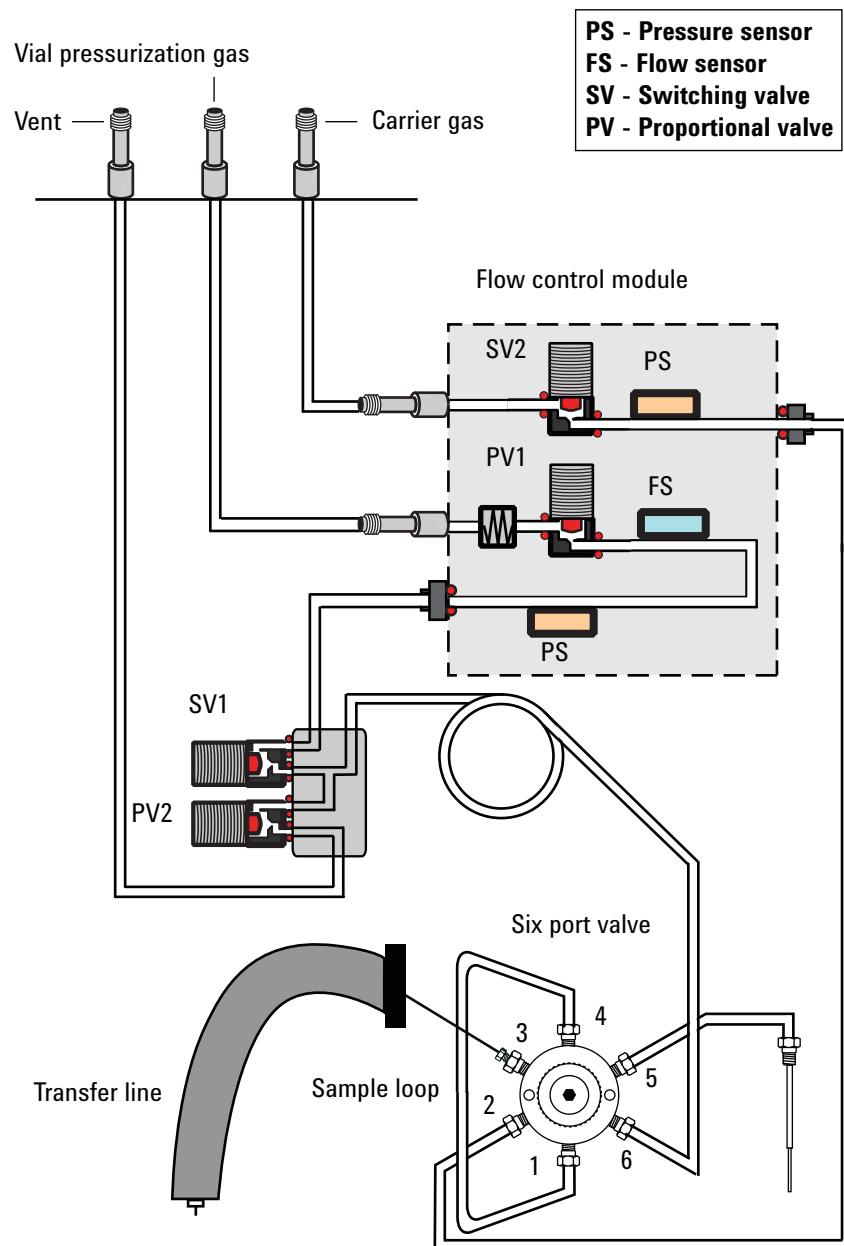
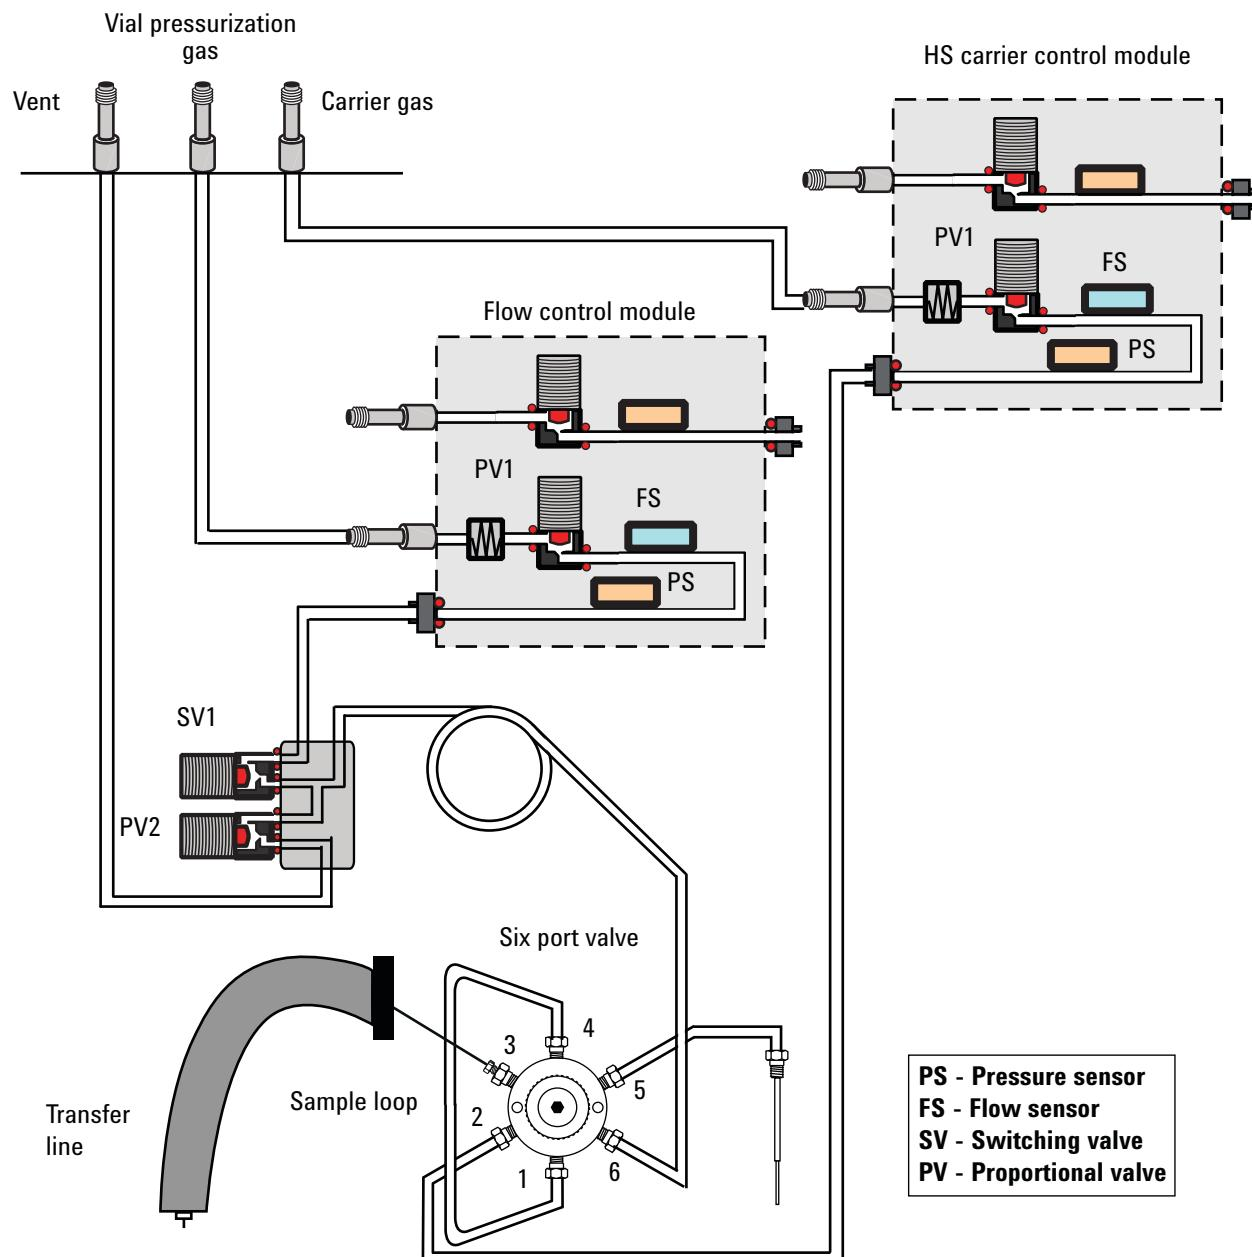

Figure 1 HS flow paths (standard installation)
Figure 2 HS flow paths with optional G4562A 7697A Carrier Gas EPC Module Accessory installed
Figure 1 and Figure 2 below show the flow paths within the headspace sampler (HS).